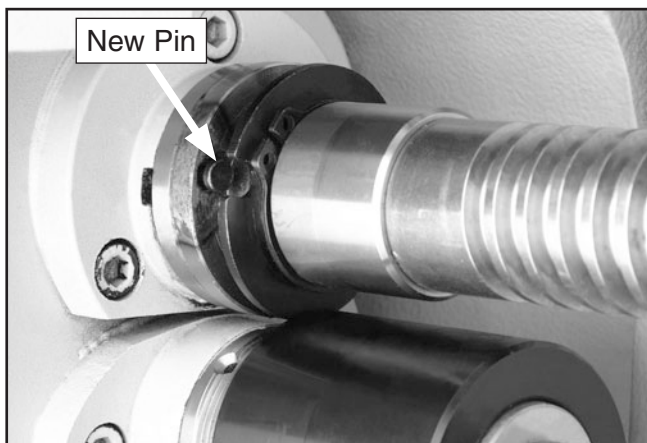

Figure 130. Pin installation.
9. Insert the new shear pin into the bore (**Figure 130**).